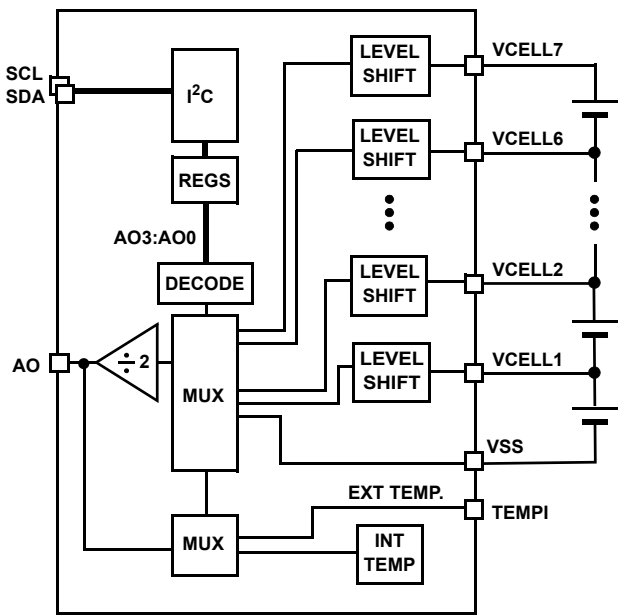

FIGURE 20. ANALOG OUTPUT MONITORING DIAGRAM
The ISL94208 devices can be used to externally monitor individual battery cell voltages and temperatures. Each quantity can be monitored at the analog output pin (AO). The desired voltage is selected using the I²C interface and the AO3:A00 bits. See Figure 20 and Table 6 on page 17. Remember to reset the AO3:A00 bits to '0000' after measurements to minimize unnecessary current draw from the cells.